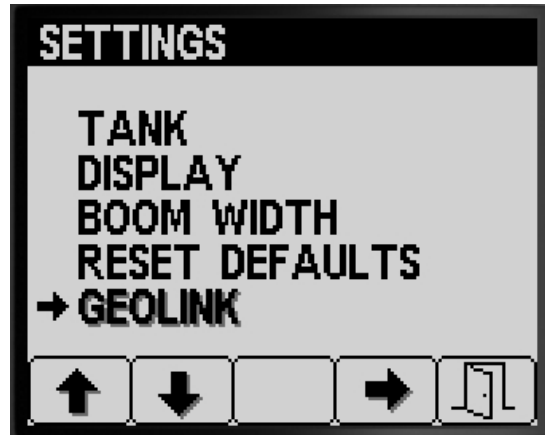

Figure 36
1. Press button 1 or 2 on the SETTINGS screen until you reach the GEOLINK option (Figure 36).
2. Press button 4 to select the GeoLink entry (Figure 36).